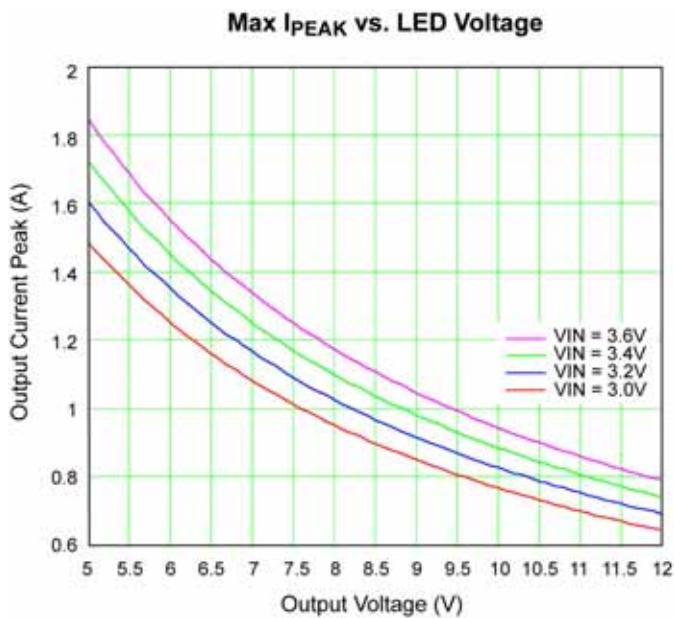

Figure 8. Peak Output Current vs.  $V_{\text{OUT}}$
The SOA (safe operating area) of the MIC2298 is shown in the typical characteristics sub-section. This graph represents the maximum continuous output power capability of the part when used in the evaluation board layout. An alternative layout with more copper area for heat sinking will increase the area under the SOA curve. Note that the SOA is for continuous power and not peak power and is effectively a thermal limitation. The SOA is true for a time constant of approximately  $>1$  second. Therefore, any load transient with a period of  $< 3$  s can exceed the SOA curve power up to a maximum limited by the current limit of the MIC2298. Figure 8 shows the theoretical output current limit of the MIC2298 using the Evaluation Board inductor value of  $4.7\mu\text{H}$ .
- The time constant of the driver is  $< 3$  seconds, so one can look at the peak current capability of the driver in Figure 8.
- Looking at Figure 8, the MIC2298 can achieve more than the required 800mA peak current at 8.4V.